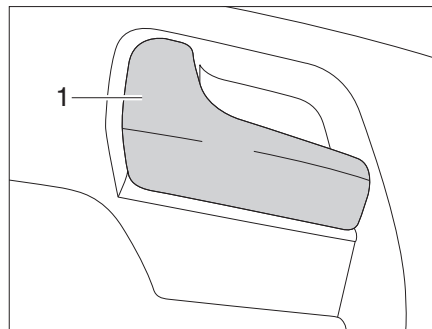

Fig. 45 Door lock of driver's door, inside
- Pull on the handle (Fig. 45,1). The door lock is unlatched.